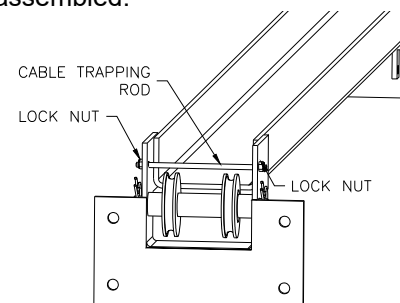

Fig. 4-Cable Trapping
- 17) At the upper beam sheave locations disassemble and reassemble the cable trapping rod to install the cable onto the sheave, See Fig. 4. To install the cable bottom sheave will need to be removed then reassembled.